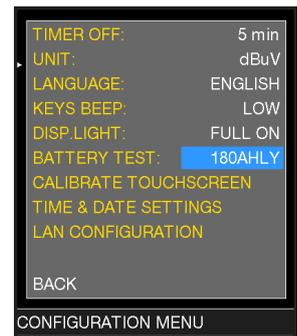

FIG. 3*
4. To check the battery test results, enter once again into "meter" in the "configuration menu" and read the results (Fig. 3):
- for example 265BF EY (fig.3) = 265 minutes.